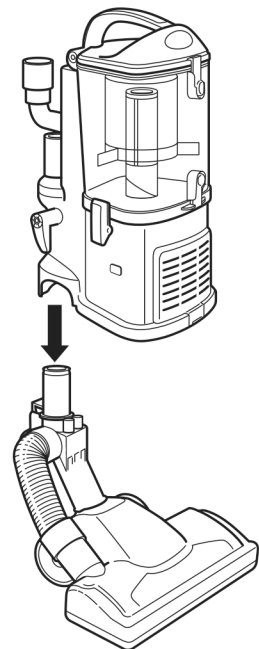

Fig. 8
- 2 Align the detachable pod over the tube on the floor nozzle. Lower the pod onto the floor nozzle until it clicks securely into place. **(Fig. 8)**